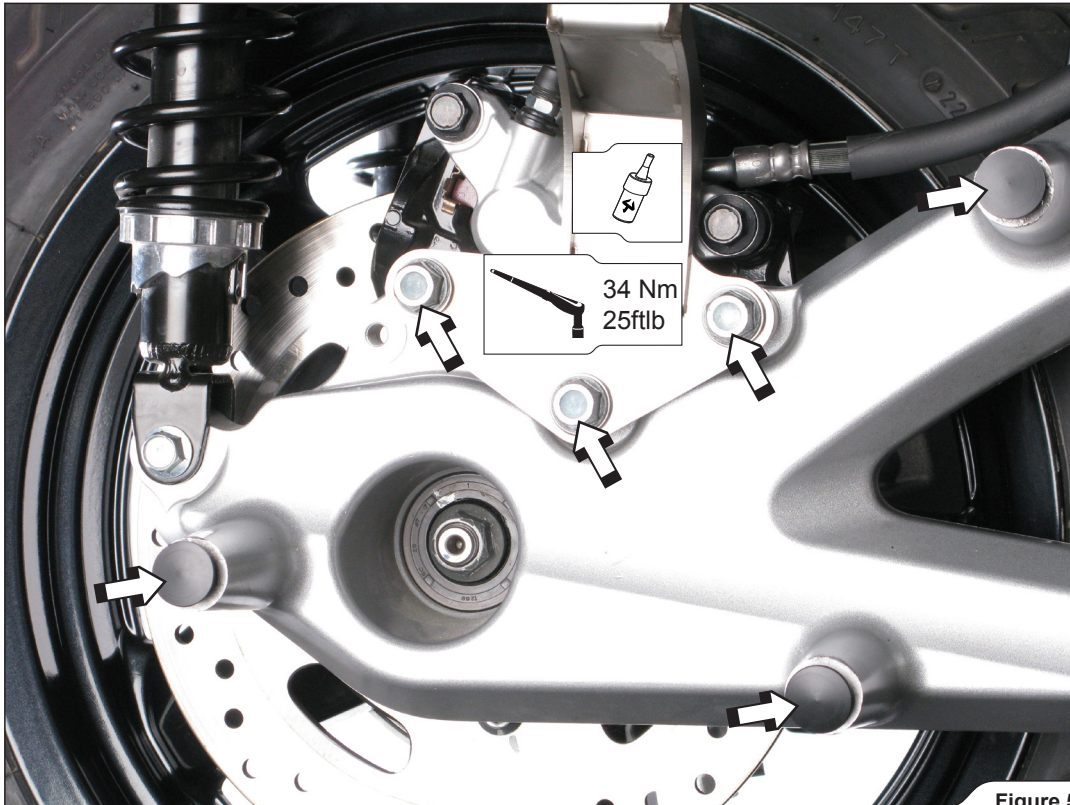

Figure 5
2. For X-MAX 250 / 250 ABS / 125 ABS / X-CITY 250 only: install the bracket onto the brake caliper as shown (use bolts and washers from Akrapovič installation kit). Insert the Akrapovič PVC plugs into the stock muffler's mounting holes, use rubber mallet to tap the plugs into place (Figure 5).